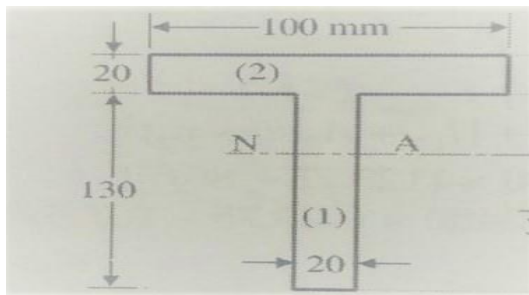

Fig Q 6(b)
- b. The T section shown in Fig Q 6(b) is subjected to a shear force of 100 kN. Draw shear stress distribution diagram and find the maximum shear stress. **10** (3 : 3 : 2.2.4)